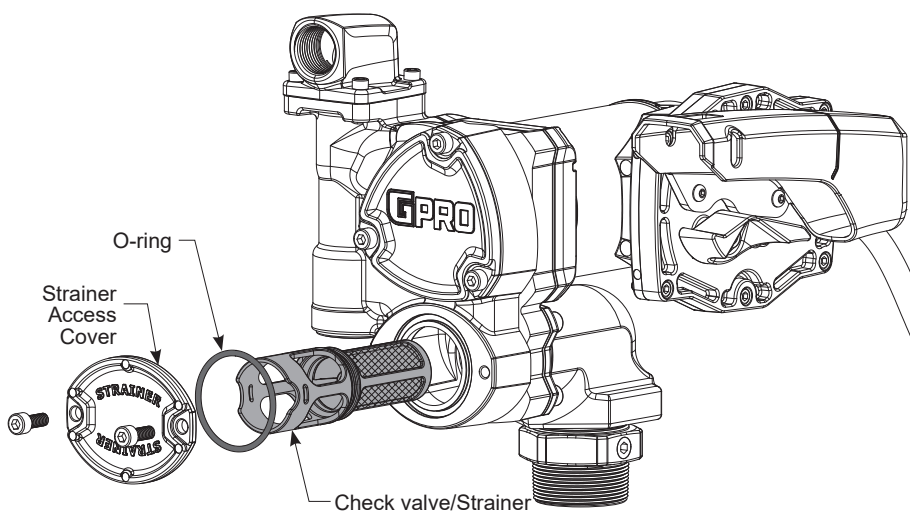

Figure 11
1. Turn the pump off and disconnect from power. Using 6mm hex wrench, remove the strainer access cover, O-ring, and check valve/strainer assembly and inspect for damage or clogs (see Figure 11). Clean the strainer with a soft-bristled brush and solvent. If the strainer is very dirty, compressed air may be used. If damaged, replace the check valve/strainer assembly.